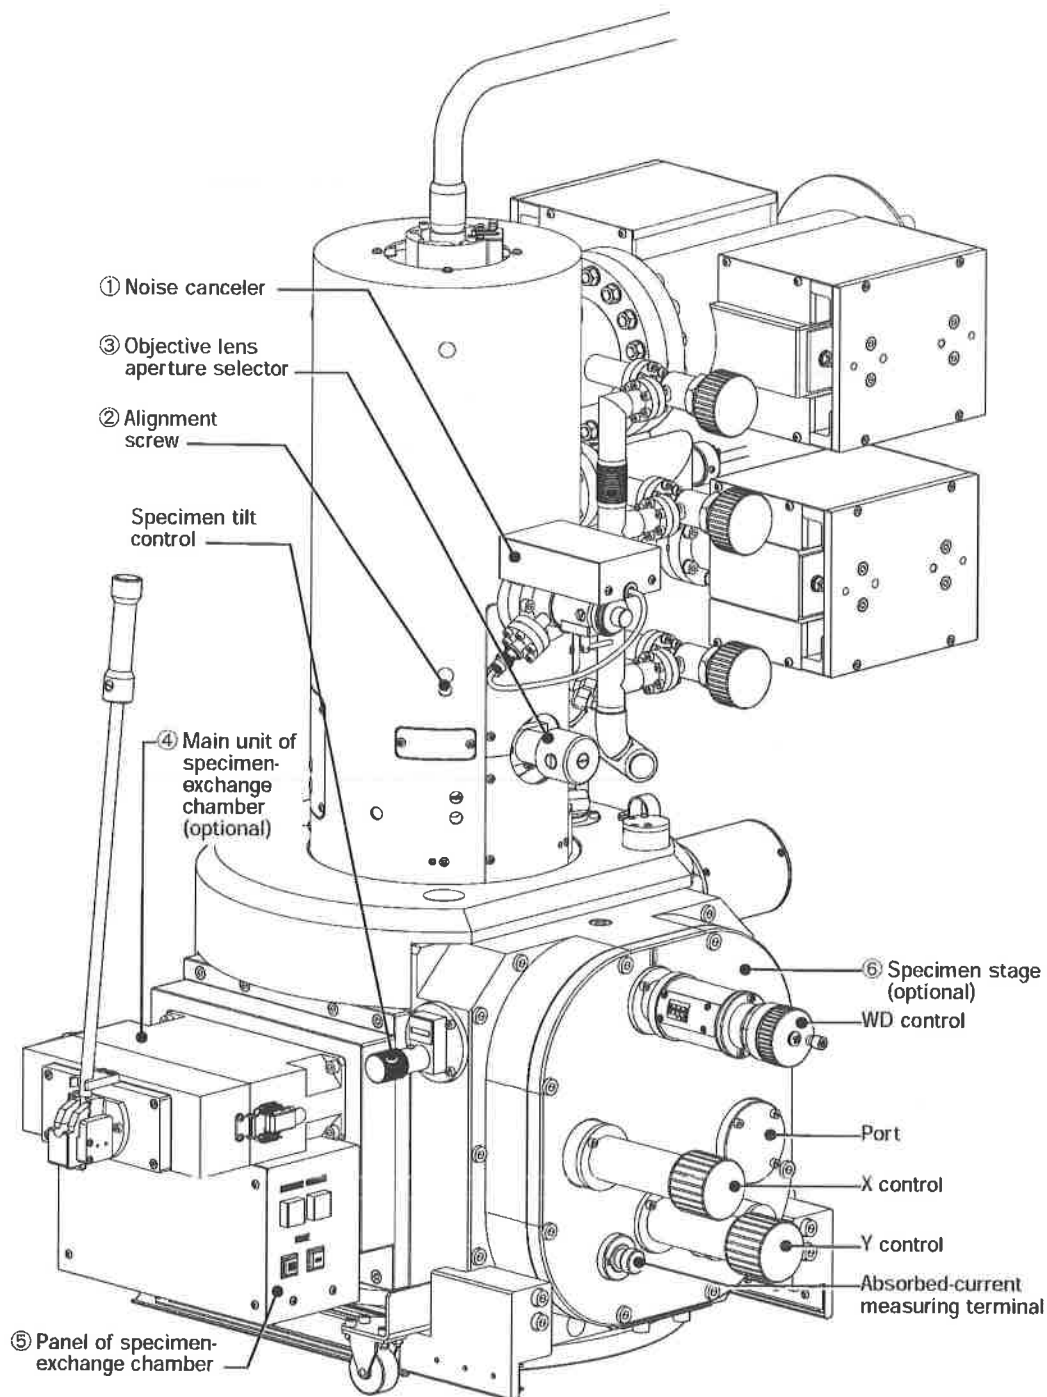

Fig. 2.2 General view of column
The principal sections of the electron optical system column are shown in Fig. 2.2.
The numbers ① to ⑥ here are linked to Fig. 2.2 General view of column.
① Noise canceler